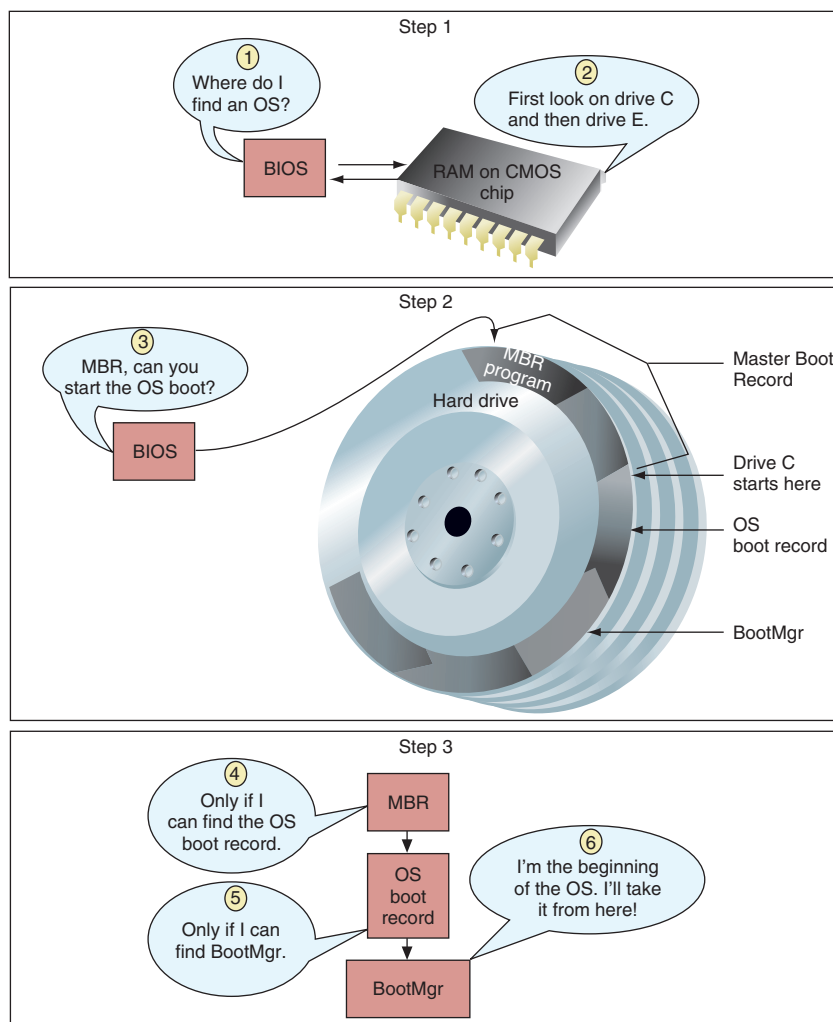

Figure 5-36 Numbered steps show how BIOS searches for and begins to load an operating system (in this example, Windows Vista is the OS)
- At the beginning of the boot drive (usually drive C) is the OS **boot record**. This 512-byte sector is physically the second sector on the hard drive right behind the MBR. This OS boot record contains a small program that points to a larger OS program file that is responsible for starting the OS load. (A **program file** contains a list of instructions stored in a file.) For Windows Vista, the OS boot record program points to **BootMgr**. For Windows XP, that program is **Ntldr**. Figure 5-36 shows the steps the BIOS follows to find this first OS program.